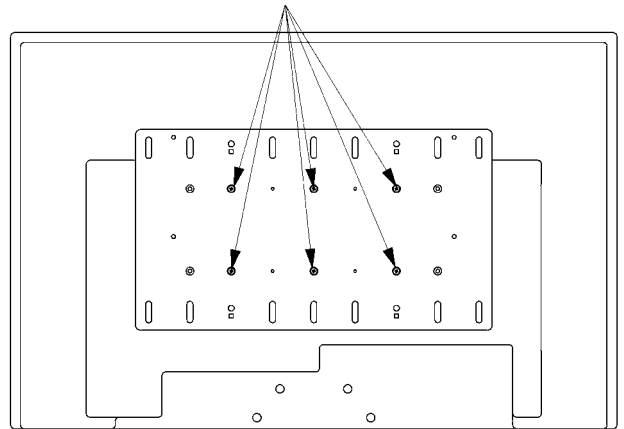

Figure 10. Display with 200mm x 100mm Hole Pattern
1. Select six flat head M4 screws (80) from Bag A and six spacers (150) from Bag C.
2. Attach the interface bracket (20) using the hole-pattern on the back of your display as shown in Figure 10.